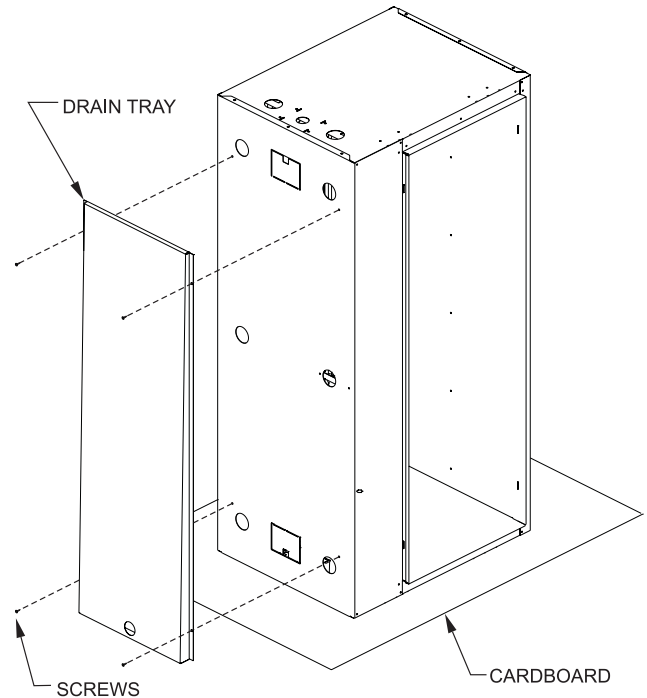

Figure 3
5. Fasten the Drain Tray to the bottom of the fireplace using four 10-32 x 1/2 hex head screws. **See Figure 4.** The Drain Tray may be installed with the drain hole positioned at either end of the fireplace. **See Figure 3.**